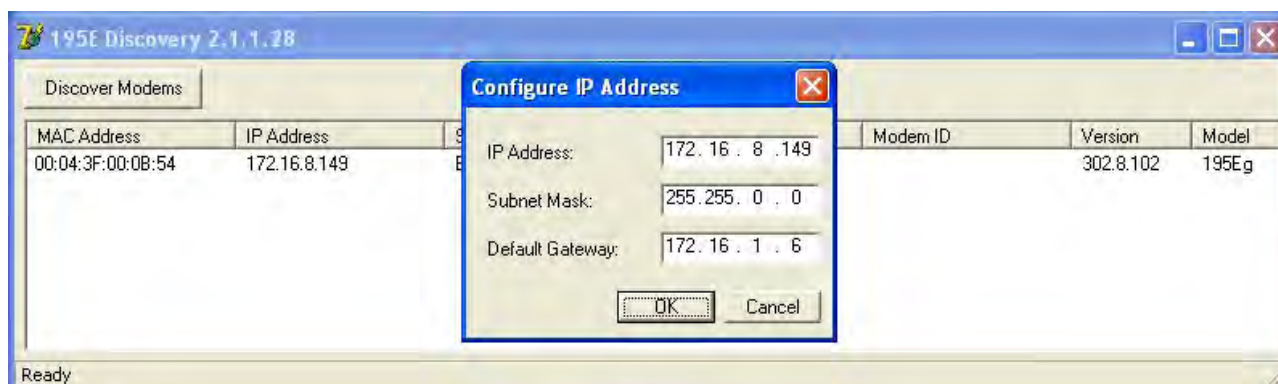

Figure 5: Change IP Address Window
- Double-click on the 210 you want to program and the *Configure IP Address* window will be displayed (Figure 5). Enter an IP address and Subnet Mask for the 210 that matches your network subnet and press the **OK** button to save this to the ESTeem. You will receive notification that the Configuration was Successful and the 210 will reboot.